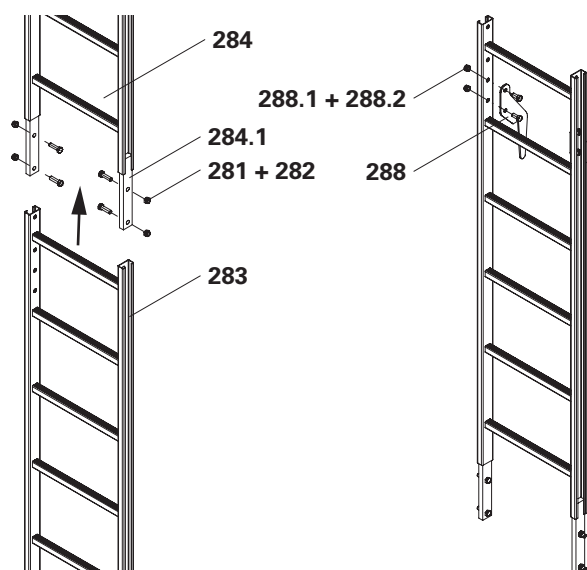

Fig. B3.05
3. Attach hook-in ladder to the top ladder. (Fig. B3.05 + B3.06)